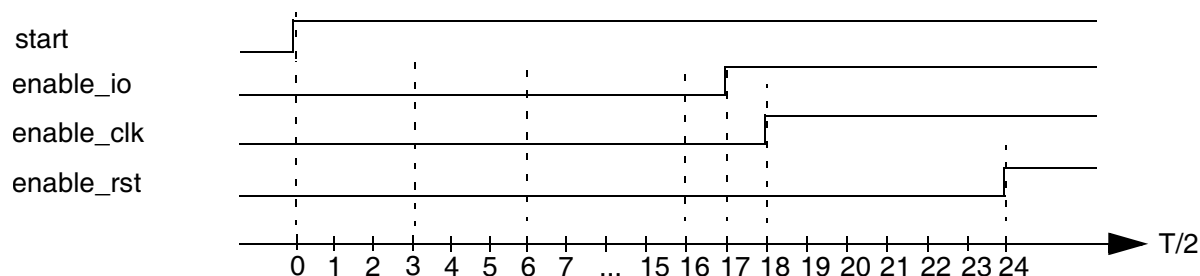
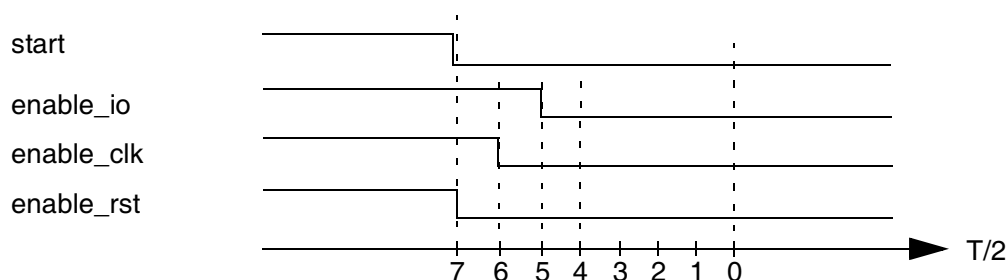

Fig 93. Activation Sequence
Fig 94. Deactivation Sequence
- The activation sequence is stopped between 0 and the rising of `enable_io` on Figure 93. The deactivation sequence will start from $4T/2$ on Figure 94 and go to 0.
- The activation sequence is stopped between the rising of `enable_io` and the rising of `enable_rst` on Figure 93. The deactivation sequence will start from $6T/2$ on Figure 94 and go to 0.
- The activation sequence is stopped after the rising of `enable_rst` on Figure 93. It is the normal case: the deactivation sequence will start from $7T/2$ on Figure 94 and go to 0.